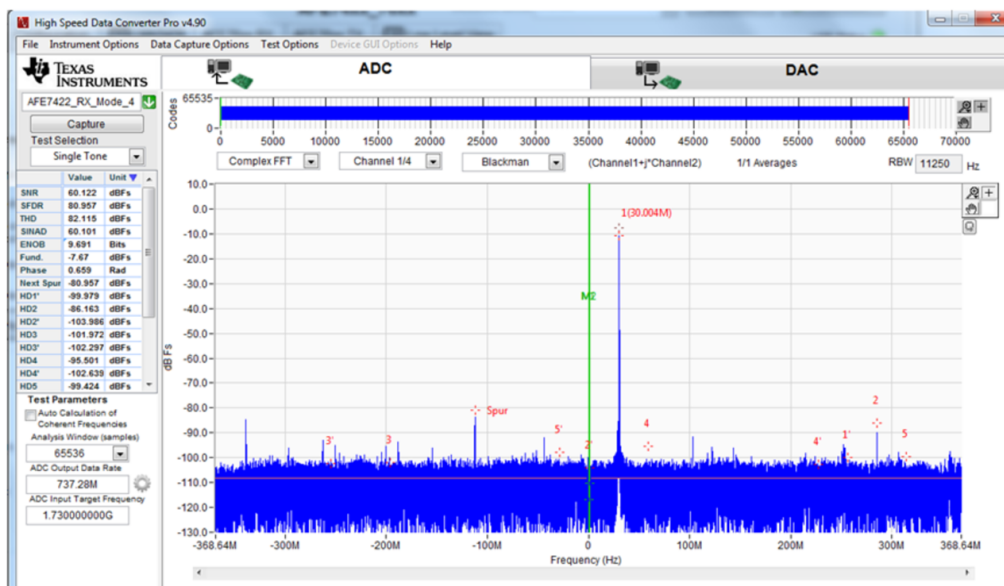

Figure 22. Tone Capture Centered at 30 MHz
6. Verify that the tone is centered at 30 MHz, as shown in Figure 22.